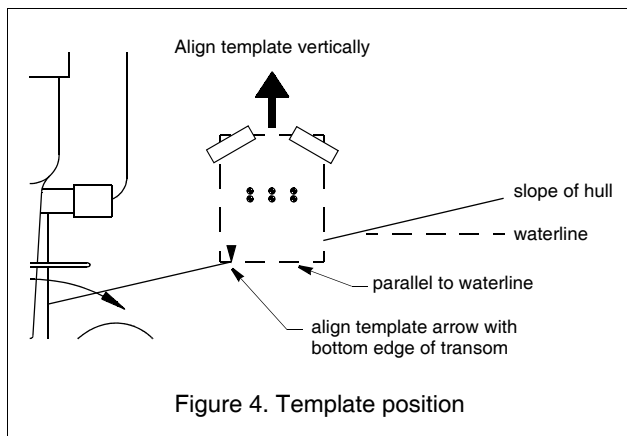

Figure 4. Template position
2. At the selected location on the starboard side of the hull, position the template, so the arrow at the bottom is aligned with the bottom edge of the transom (see Figure 4). *Being sure the template is parallel to the waterline, tape it in place.*